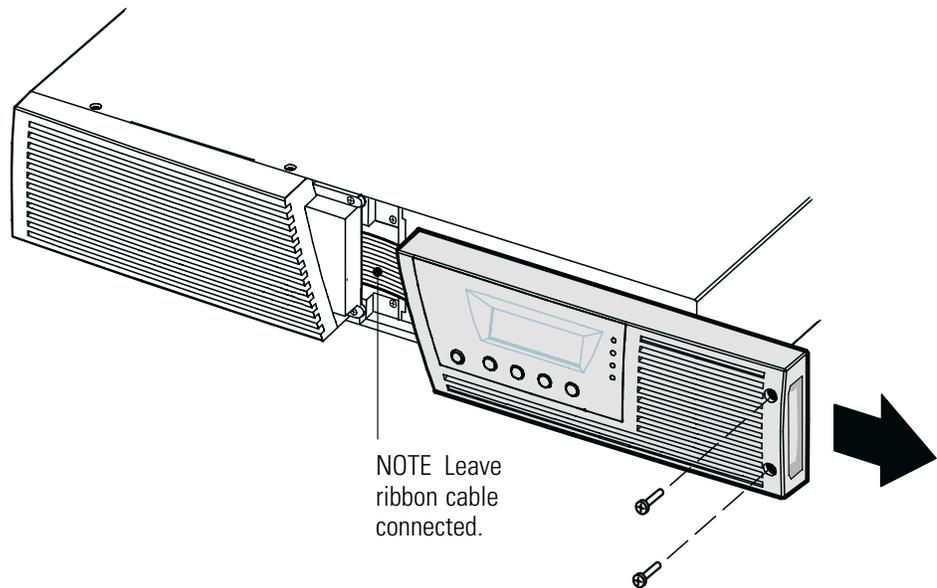

Figure 9. Removing the UPS Right Front Cover
- 1.** Remove the UPS right front cover (behind the LCD control panel). See Figure 9.